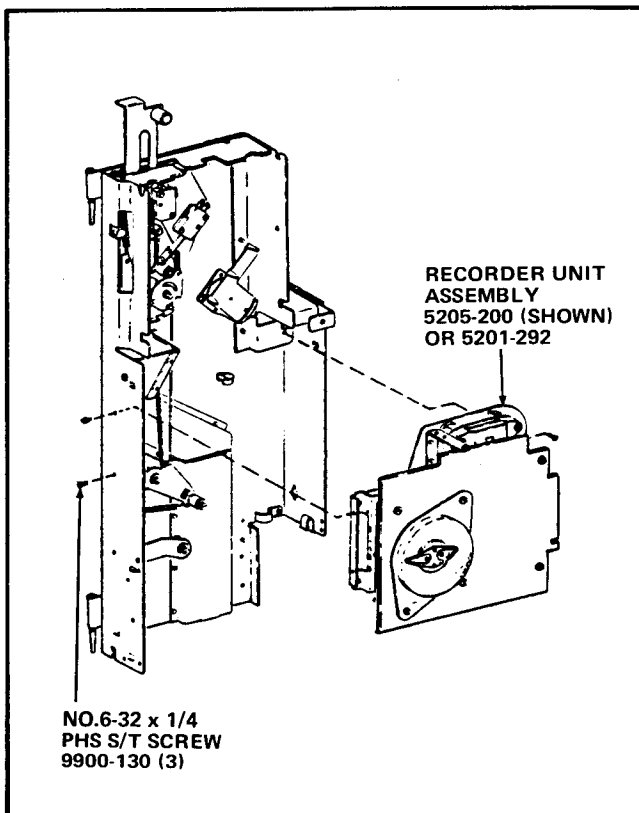

FIGURE 8
L. Install the Recorder Unit Assembly (See Figure 8), included in the Kit, as follows: